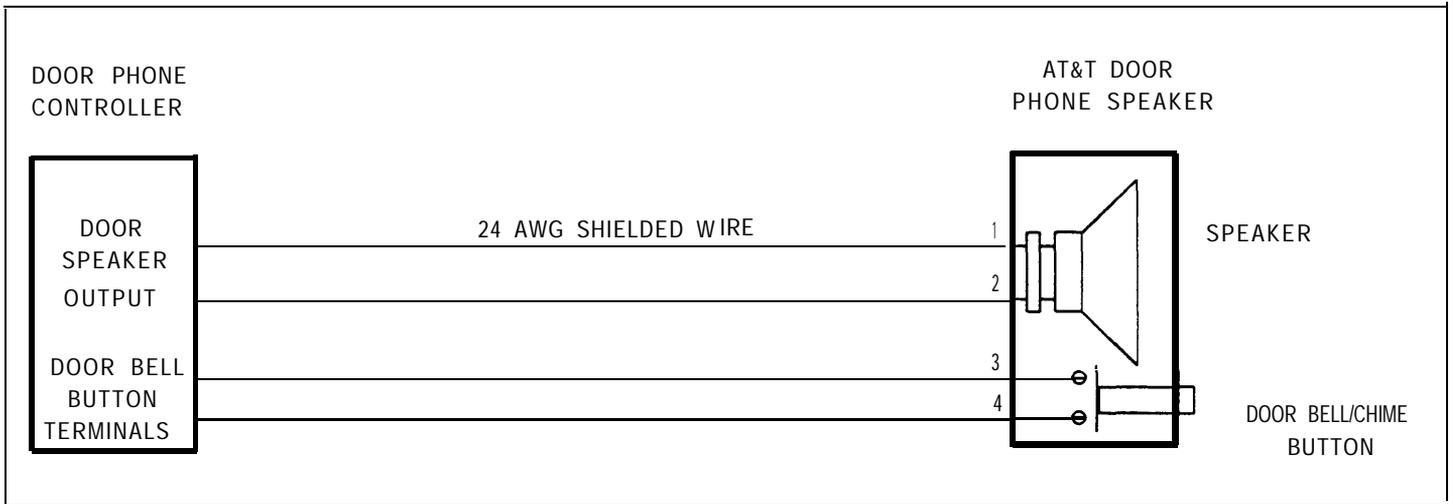
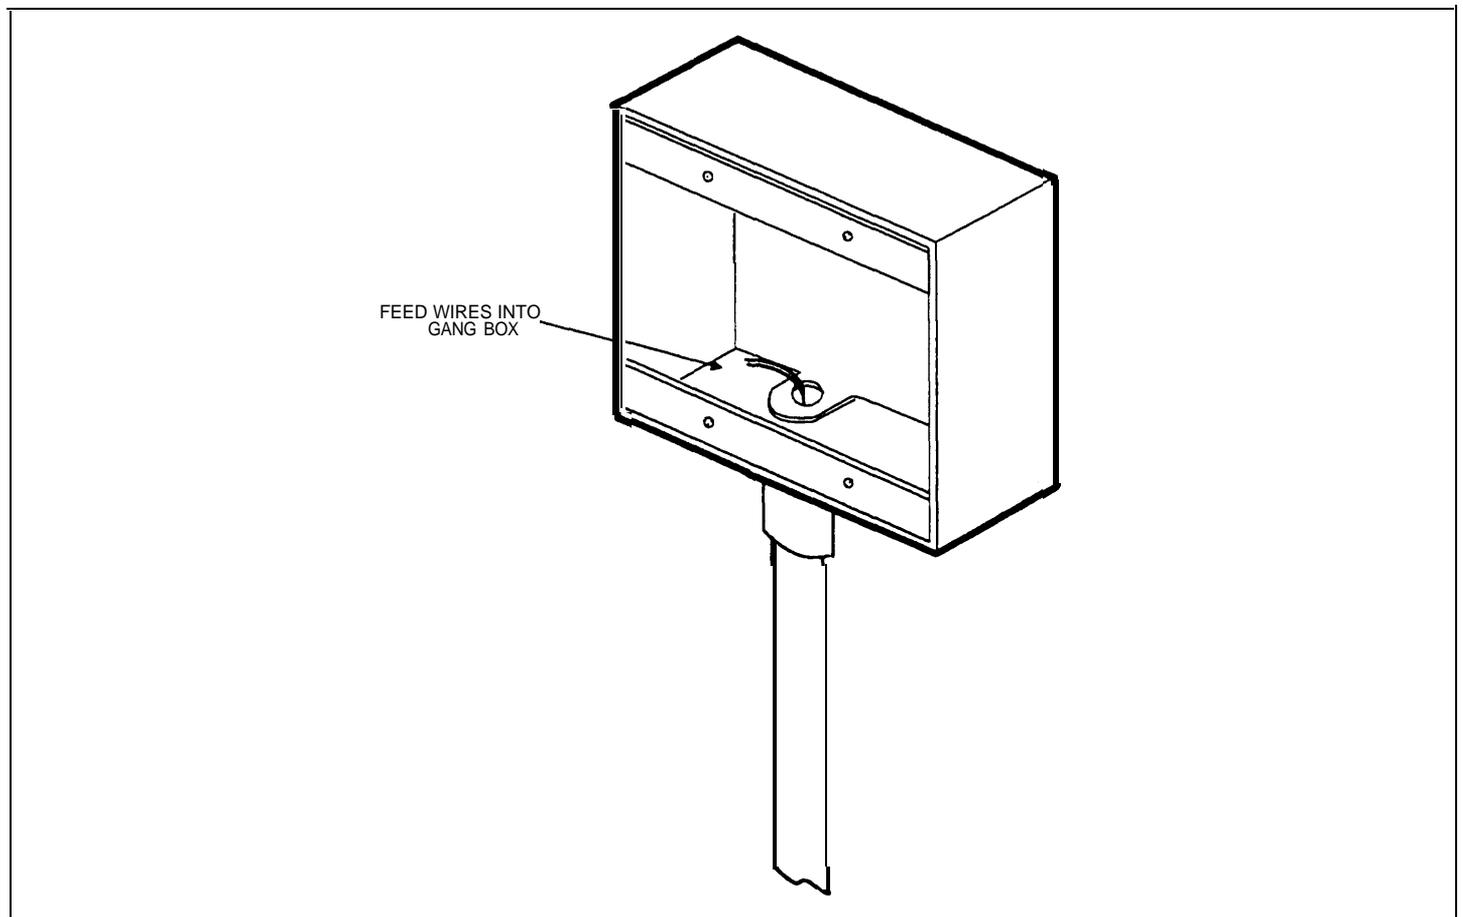
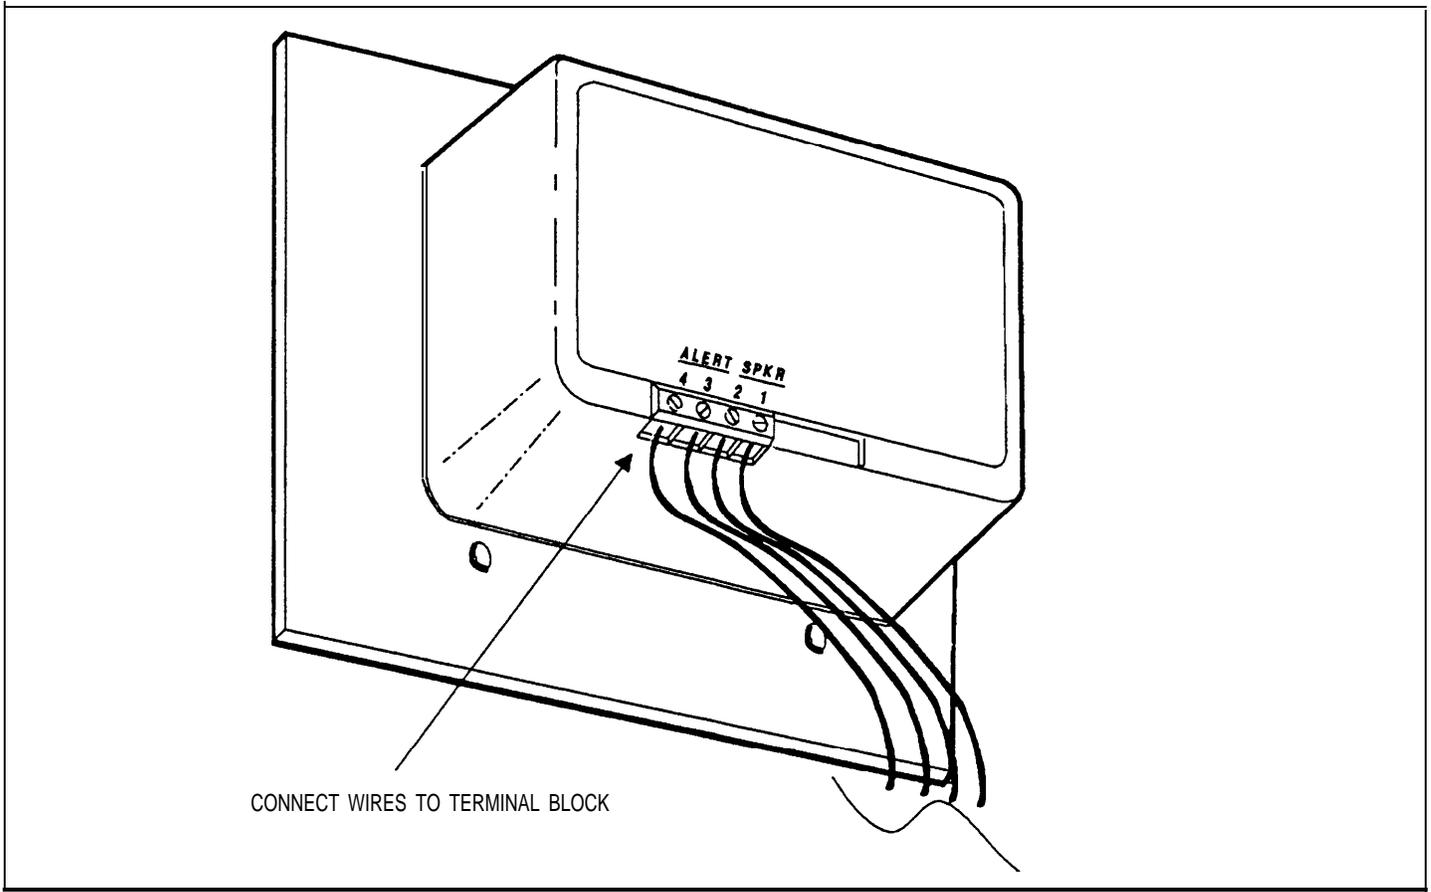

Figure 2-4. Wiring Diagram
Figure 2-5. Feed Wires Into Gang Box
Figure 2-6. Connect Wires to AT&T Door Speaker Terminal Block
The AT&T Door Phone Speaker back panel has two sets of terminals; one set is labeled SPKR the other labeled ALERT (refer to Figure 2-6). The two ALERT terminals are labeled 3 and 4, and are connected to the doorbell terminals of a door phone controller. The other two terminals (1 and 2) are labeled SPKR. The SPKR terminals connect to the output of the door phone controller and must use shielded twisted pair wire. See Figure 2-4 for wiring diagram. Follow the steps below:
2. Route wires through conduit (if necessary) and feed into double-gang outlet box. See Figure 2-5.
3. Cut wires, leaving at least six (6) extra inches for connection to Door Speaker's terminal strip.
5. Loosen each of the terminal block screws and insert exposed wire ends into appropriate terminal block locations. Tighten terminal block screws (see Figure 2-6). Ensure wire connections are correct before continuing.